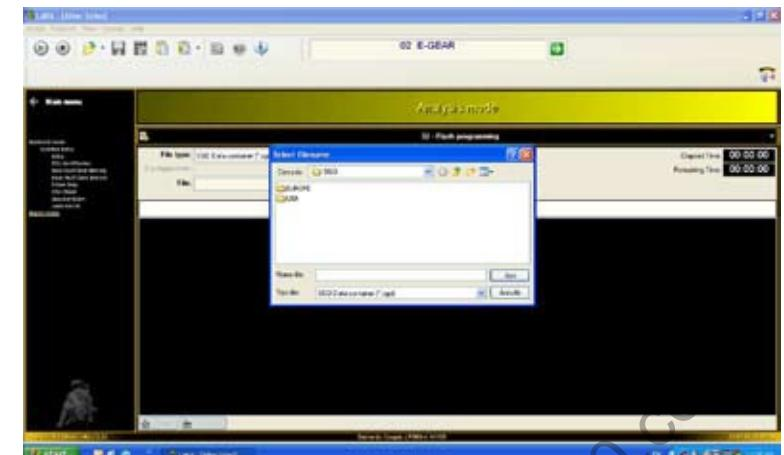

Fig.120
6. The system will make two software files available, which are already loaded in the system (**Fig.120**):